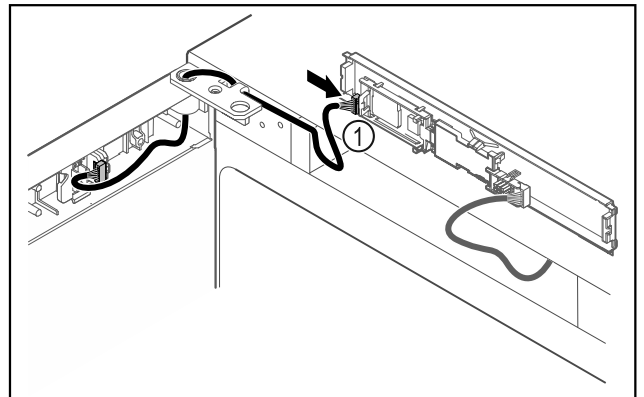

Fig. 41
- ▶ Connect the plug Fig. 41 (1) to the circuit board.